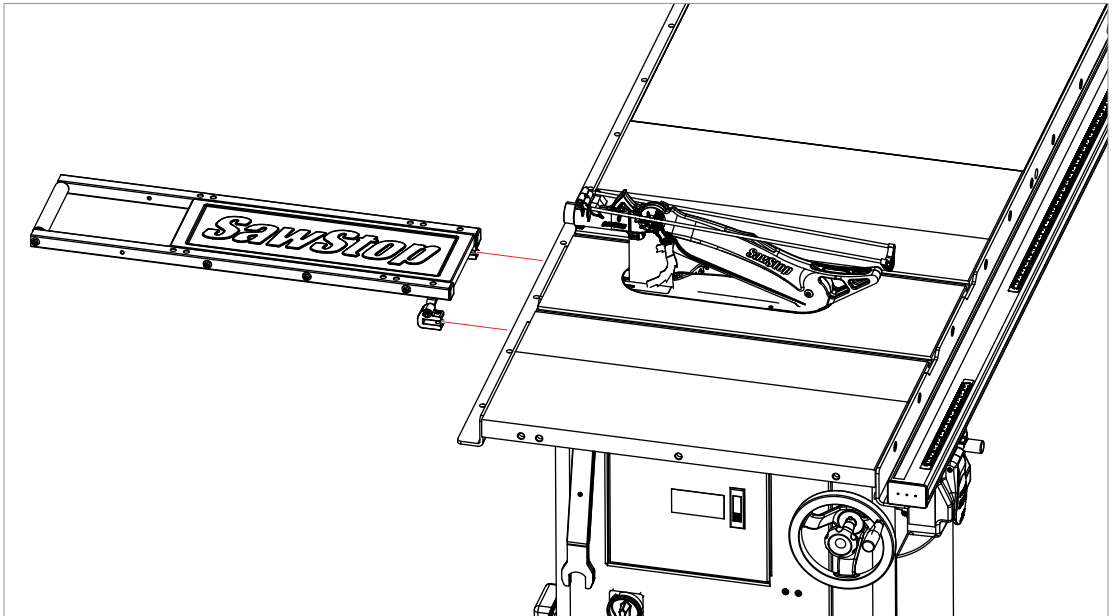

Fig. 14
- 9 Slide the two rear rail clamps onto the rear rail of the table saw, and use a 5mm hex L-wrench to tighten the M10 x 20 set screws against the rear rail (see Fig. 14).